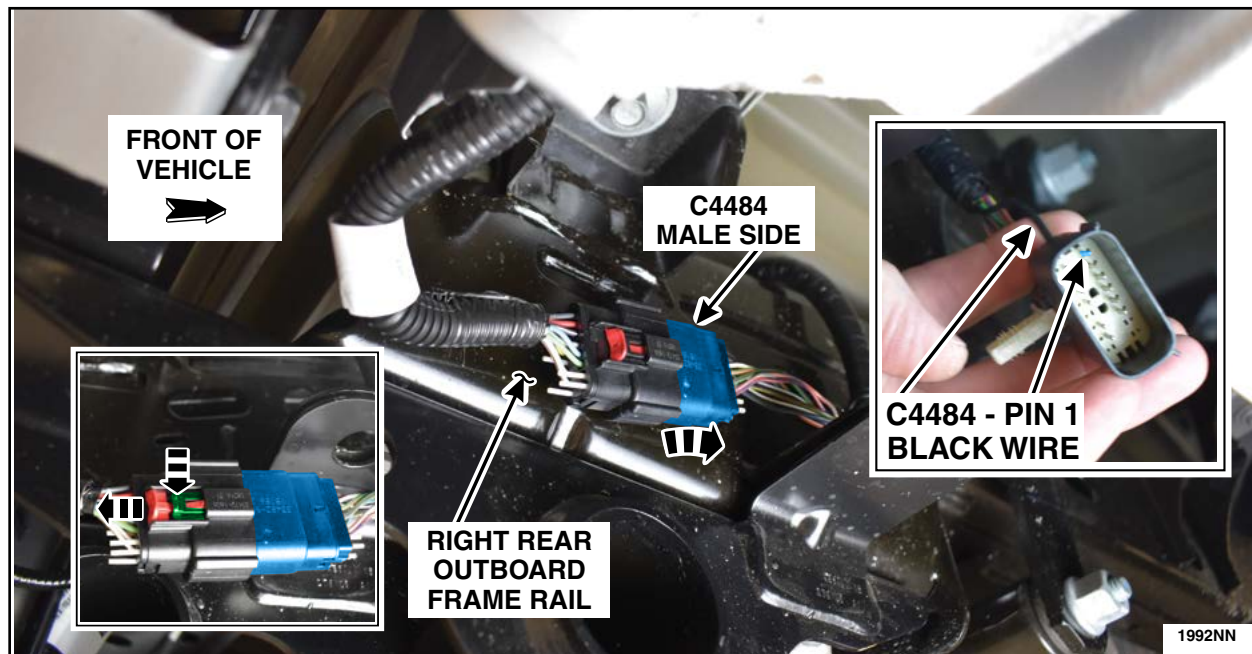

FIGURE 9
9. Working from the rear of the vehicle, disconnect connector C4484 (With BLIS) located on the right rear outboard frame rail, above the tailpipe. Then Locate pin 1 (Black (BK) wire) on the male terminal side. See Figure 9.